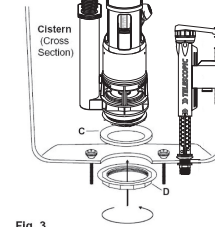

Fig. 3
3. Assemble the flush valve (B) through cistern with rubber washer (C) on the inside of the cistern. Secure using fixing nut (D). Take care not to over tighten. (see Fig. 3).